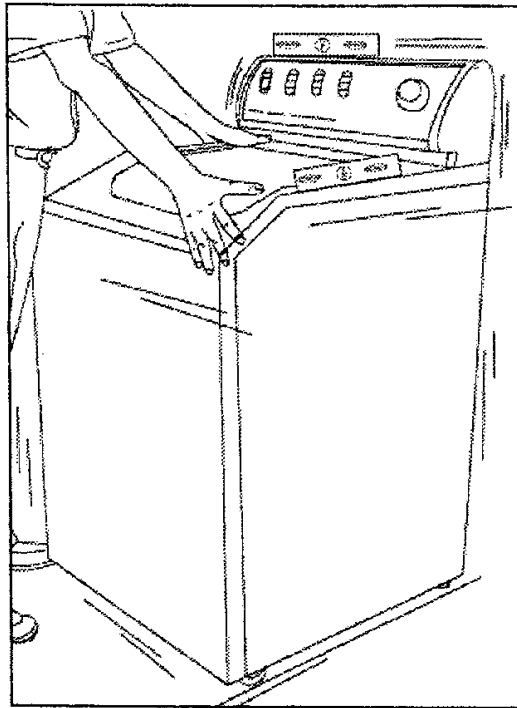

Figure 1-3
6. Tilt machine forward until rear of cabinet is approximately 4 inches off the floor, then lower the machine back to the floor on the rear feet. This operation will cause the rear stabilizing feet to conform to the contour of the floor and seat the machine solidly. Push washer with hands on opposite corners to check stability. **(Figure 1-3)**